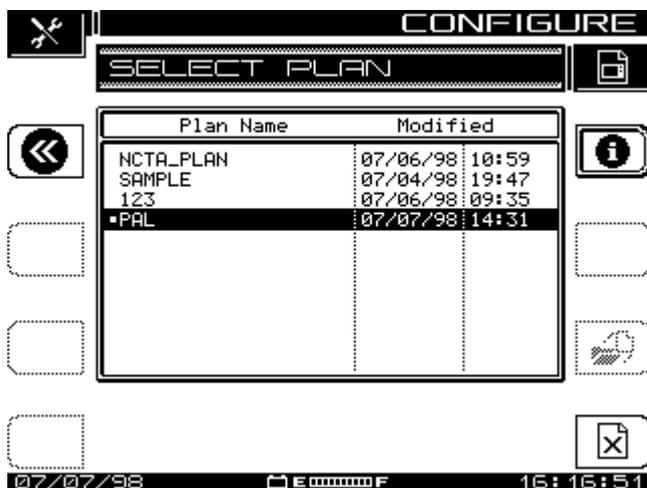

Figure 10-3: Select Plan
Select the top line, which produces Figure 10-3, Select Channel Plan, a list of existing channel plans. If the Stealth is being used for the first time, the only Channel Plan shown is the standard NCTA plan. The process in **Build Channel Plan** (text item D, below) enables you to create, name, and add to the list new channel plans that meet your requirements.
3. Press the **i (Info)** soft key to get info on the current plan, Figure 10-3. This selection is available only for the currently active plan.